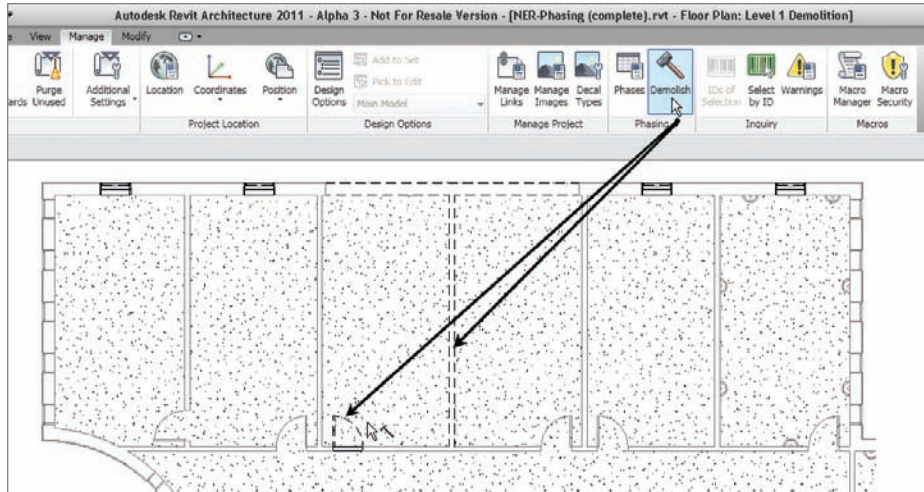

FIGURE 21.17 Demolishing the wall and door
7. On the Manage tab, click the Demolish button, as shown in Figure 21.17.
8. Demolish the wall and the door shown in Figure 21.17. (Again, since we are in the demo plan, this process has never been easier.)